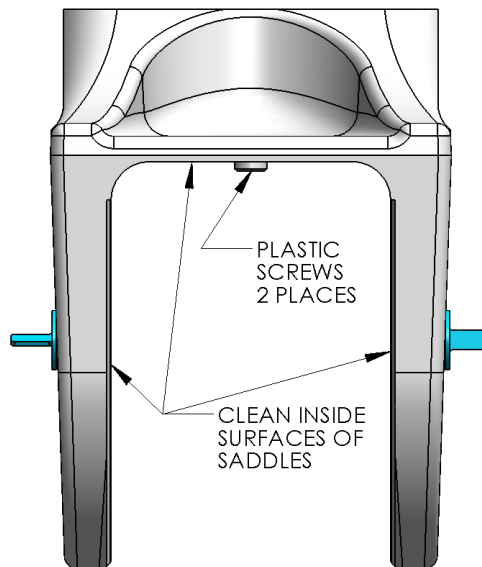

FIGURE 11 - SADDLE CLEANING
- 2) Check that each saddle contains 2 plastic screws which will insure an adhesive gap of .080" (2 mm) on top surface of hull as shown in Figure 11.
- 3) Thoroughly clean with alcohol or acetone the inside surfaces of Seakeeper foundation saddles to remove any contaminants as shown in Figure 11. Use new paper towels for cleaning, not shop rags.